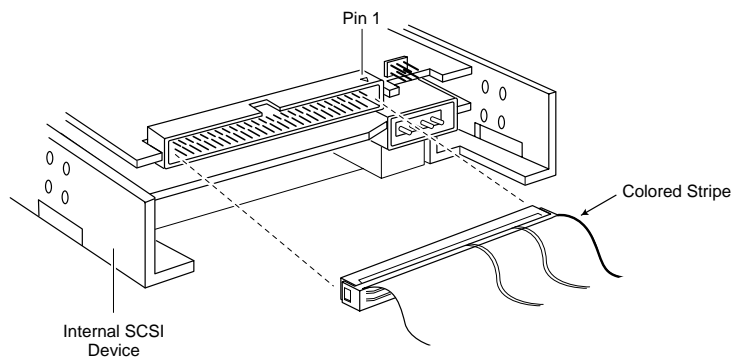

Figure 5-5. Internal SCSI Ribbon Cable to Internal SCSI Device
- 3 Plug a SCSI connector on the internal cable to the SCSI connector on the first SCSI device, as shown in Figure 5-5. Match pin 1 on the ribbon cable to pin 1 on the connector. (Pin 1 is usually marked by a triangle or a 1.)